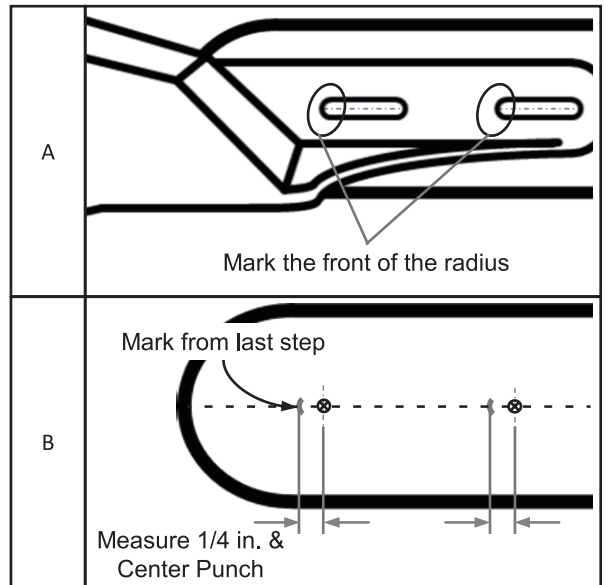

Fig. 3
5. Use an awl or marker, mark the forward most radius of each slot onto the bar, as circled in Fig. 3 - A.
6. Remove the attachment then measure 1/4 in. away from the marks made in the last step and mark. Use a center punch to mark where to drill as shown in Fig. 3 -B.